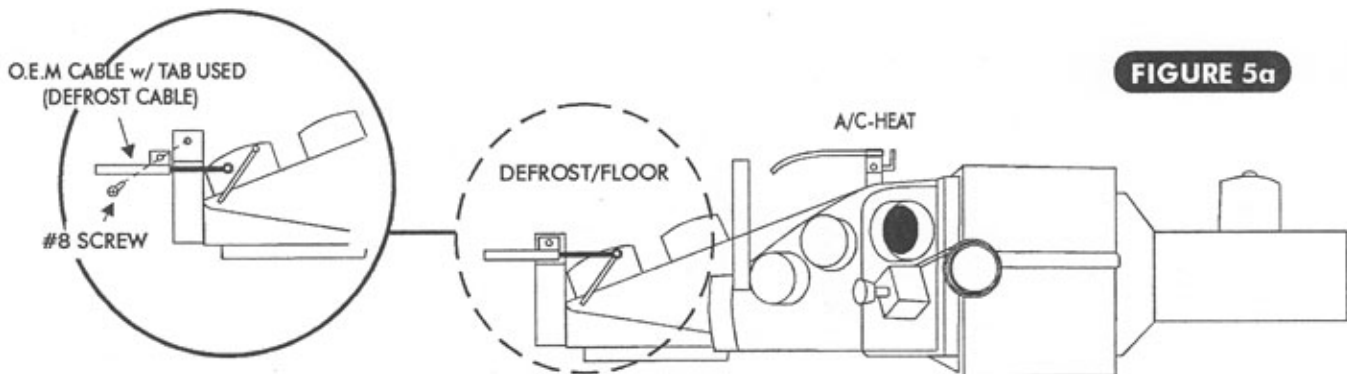

FIGURE 5a
- ❑ 1. LOCATE THE LONGEST O.E.M CONTROL CABLE AND ATTACH TO THE A/C/HEAT PLENUM CABLE BRACKET. **SEE FIGURE 5a PAGE 5**